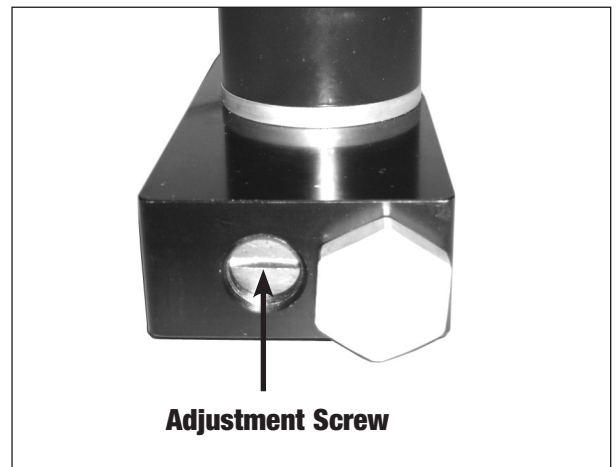

Figure 3 - Fuel Pressure Adjustment
4. Start the engine and take a reading of the running fuel pressure. Locate the Adjustment screw (**See Fig. 3**) and adjust pressure to the desired level. Rotate the screw clockwise to increase fuel pressure or counter-clockwise to decrease fuel pressure.